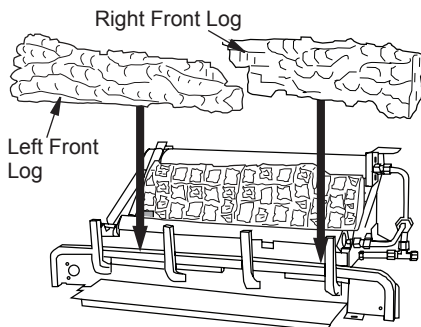

Figure 49 - Installing Left/Right Front Logs
3. Place front left and front right logs as shown in Figure 49.